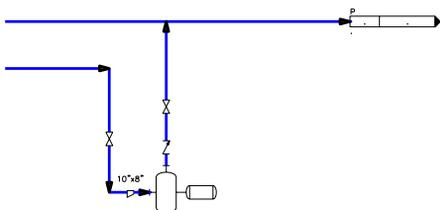

Figure 2-85 Off page connector placed at the endpoint of the pump outlet line
- Place the off page connector at the endpoint of the line connecting the pumps, as shown in Figure 2-85.